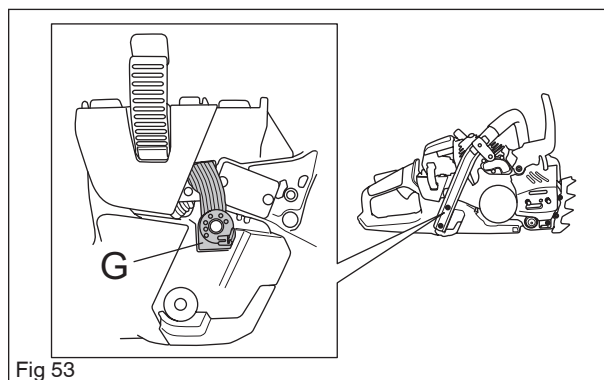

Fig 53
5. Loosen the movement limiter G. See figure 53.
4. Press the movement limiter G into position. See figure 53.